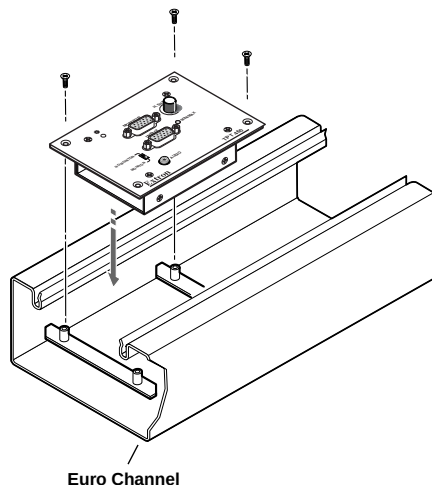

Figure A-7 — Mounting the transmitter in a Euro Channel
2. Mount the interface to the Euro Channel by attaching the faceplate to the two mounting brackets using the four #4-40 mounting screws (figure A-7).